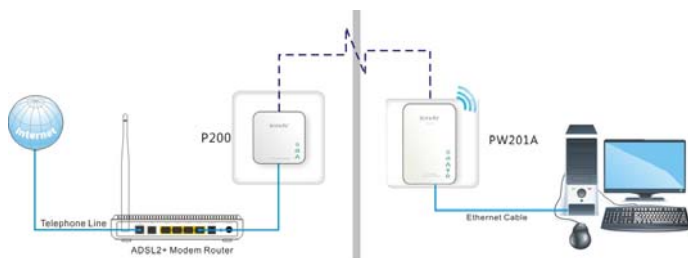

Figure 1-7 Installation Completed
3. Then the PW201A pairs automatically with P200 to establish a Powerline network. A successful connection may be established. If relevant LEDs do not display lights the way they should be, double check the connection. Figure 1-7 presents a whole diagram of installation completed.